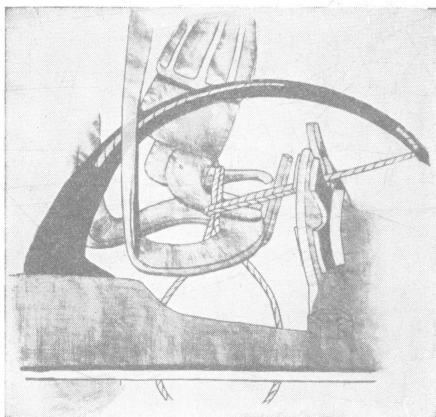

Fig. 10. Step 3 in the Tying Process. The bills revolve, open—and are about to close down on the two ends of the band held by the disk.
Step 3. With the disk holding the two ends of the band and the needle remaining up as shown in Fig. 9, it is now the *twine bills'* time to function. Being driven by their pinion, which can be seen in the illustrations (Figs. 8 to 12), the bills turn toward the left, and in doing so form around themselves a loop in the twine. When about three-quarters way around they open, as shown in Fig. 10, the upper
Explanation. As indicated in Fig. 10 the bills must open wide in order to grasp both ends of the band. If the diameter of the bills' cam roller has been materially decreased, as in Cause 2, or if the bills' pinion does not hold the bills up well against the opening track, as in Cause 3 immediately preceding, the upper bill will not be opened wide. If it does not open wide enough to grasp both ends of the band the upper bill may wedge in between the two ends and grasp the lower end only. With this end the bills tie a simple knot around the other end of the band. Thus a perfect slip knot is tied. This passes out with the bundle, because the stripper can strip the bills inasmuch as the bundle is holding the band.